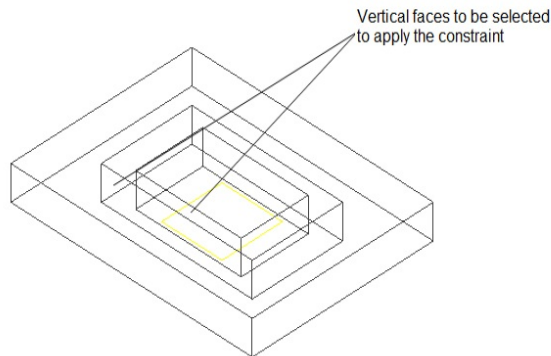

Figure 14-37 Faces selected to apply the **Mate** constraint
9. Change the display type of both plates to **Wireframe** and then apply the **Mate** constraint with an offset of 10 mm between the selected faces, as shown in Figure 14-37; the Inner Plate gets shifted.